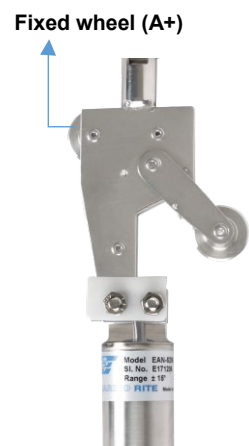

Figure 3-2 Top wheel
- Locate A+ side i.e. the top wheel on all the sensors and it should be towards the expected direction of movement (refer to figure 3-2).